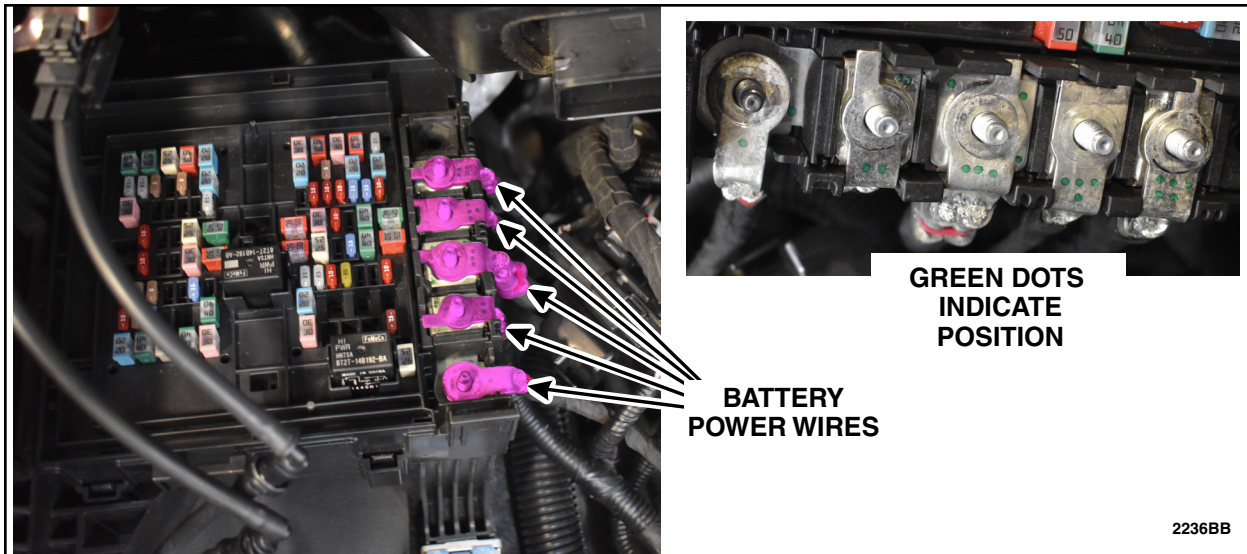

FIGURE 7
8. Remove battery power wires and make sure to document their position. See Figure 7.